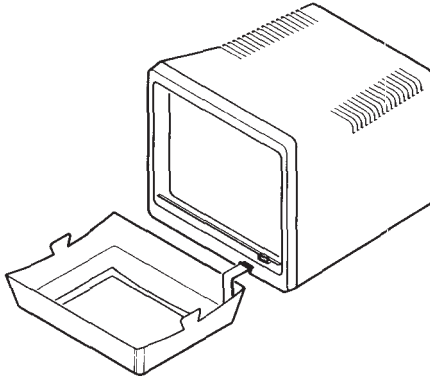

Figure 10-3.
4. Place HP Touch flat on the table in front of the monitor so that the plug on the end of the HP Touch ribbon cable lines up with the socket on your monitor (Figure 10-3).